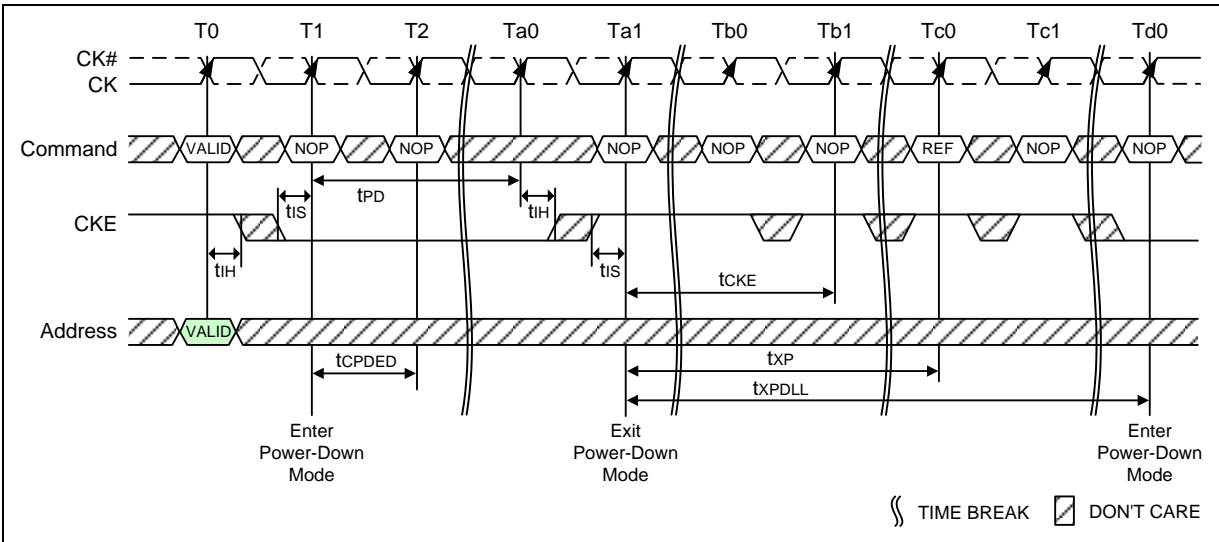

Figure 70 – Power-Down Entry/Exit Clarifications - Case 2
2) tXPDLL must be satisfied (referenced to the registration of PD Exit) before the next power-down can be entered. A detailed example of Case 2 is shown in Figure 70.